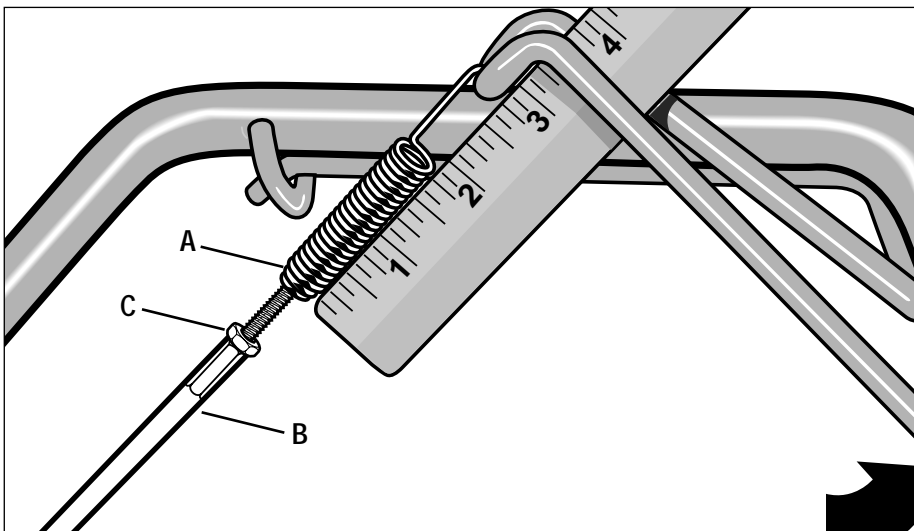

Figure 5-4: Lift bail and check length of Clutch Bail Spring to check for correct belt tension (1-7/8").
3. Measure the length of the coiled portion of the clutch bail spring (A, Figure 5-4) with a ruler. If the belt tension is correct, the length of the coiled portion should be approximately 1-7/8".
5. To adjust the length of the spring, release the Forward Clutch Bail. Unthread the hex nut (C, Figure 5-4) to the top of the screw. Next, screw the threaded adjuster (B, Figure 5-4) counterclockwise (as viewed from the operator's position) to increase the length of the spring, or clockwise (as viewed from the operator's position) to decrease the length of the spring.
NOTE: If you have difficulty turning the adjuster by hand, have an assistant hold the Forward Clutch Bail to the handlebars while you insert a flat-tipped screwdriver into the screw located inside the top of the clutch bail spring (A, Figure 5-4). While you turn the screw, keep the Forward Clutch Cable from turning by gripping the upper end of the threaded adjuster (B) with pliers.
6. When the measurement is correct, tighten the hex nut (C, Figure 5-4) against the threaded adjuster (B).